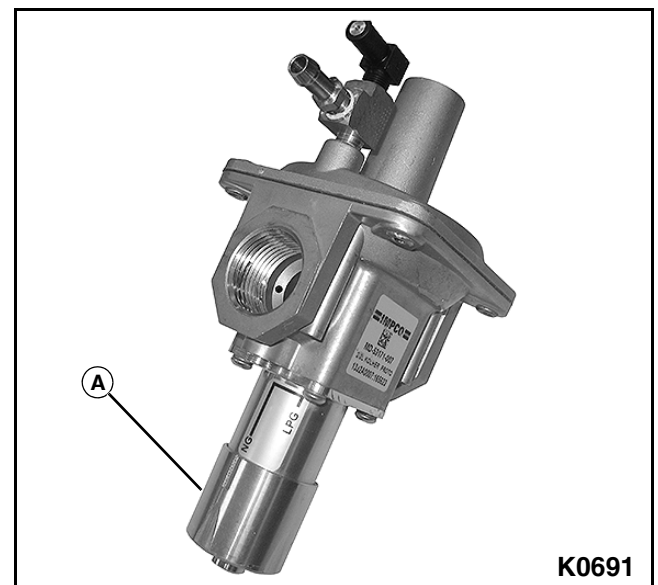

Figure 4-11
2. **For LPG fuel only**, connect wire N20 from the fuel pressure regulator to wire 45 from the ECM wiring harness using the quick-connect adapters. **See Figure 4-11.**
2. Disconnect wire N20 and wire 45. **See Figure 4-11.**